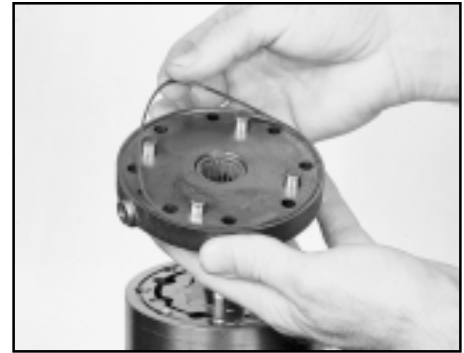

Figure A10
12. Place o-ring (3) in cover (2) seal groove. Assembly grease can be used to hold the o-ring in place during assembly. SEE FIGURE A10.